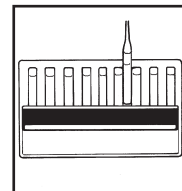

Figure 5
b.High Range Comparator (fig. 5):